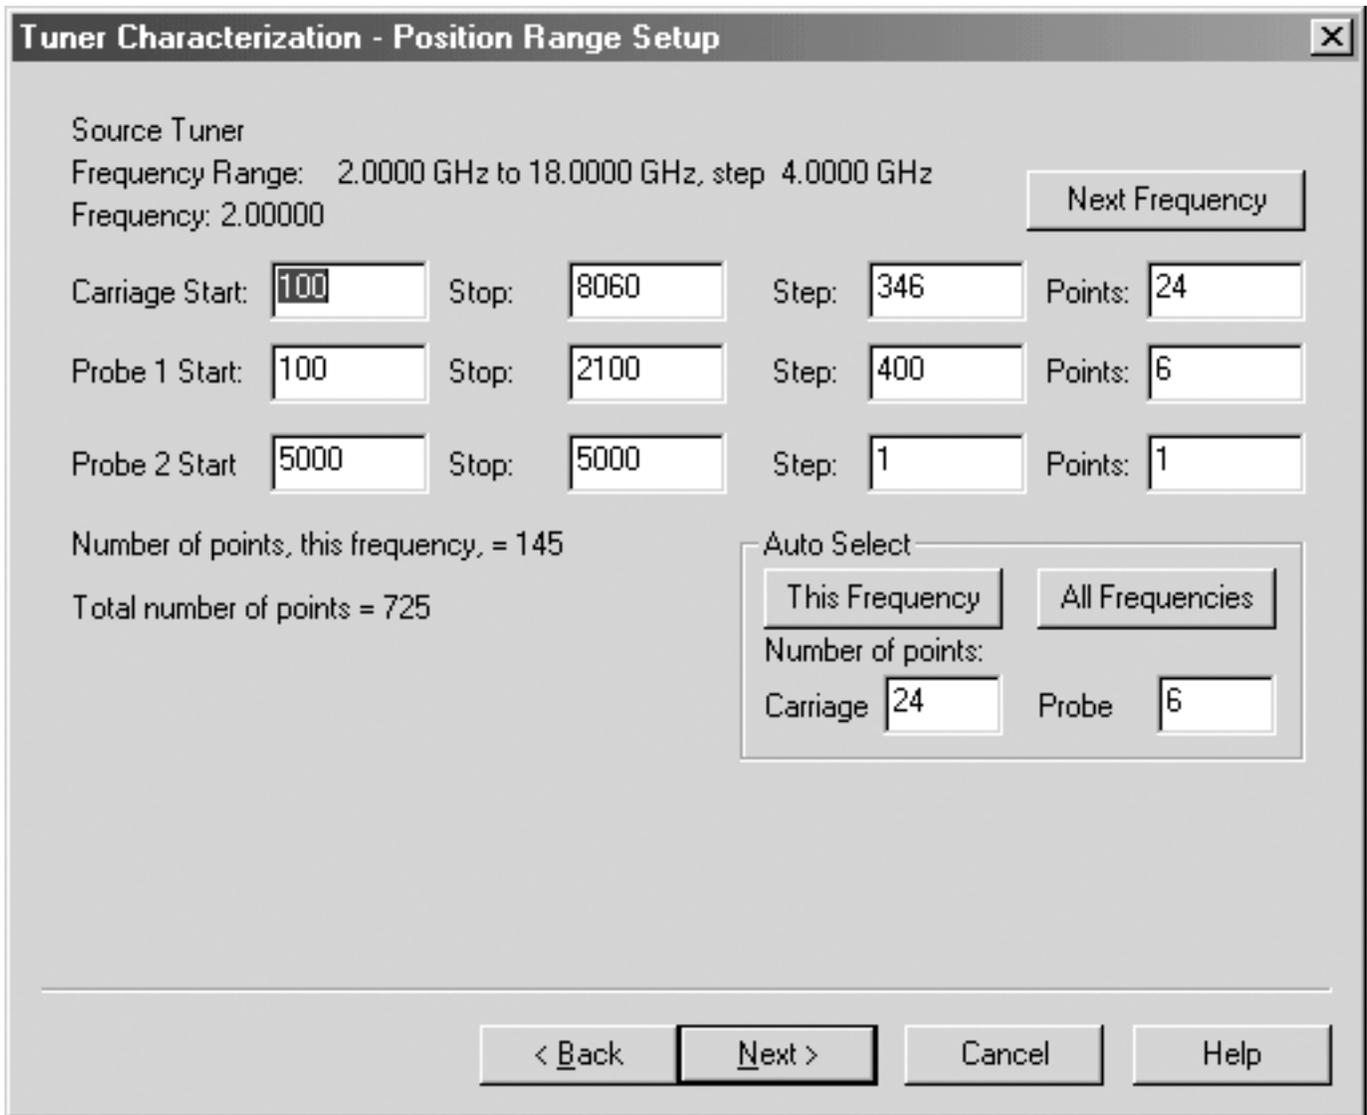

Figure 5-3. Tuner Step Position Range Setup Editor
- d. The next step is to edit the range of positions, if desired. The default range (see Figure 5-3) will provide nominal reflection coefficient coverage of the entire Smith chart. The density depends on the default number of carriage and probe positions, shown in the lower right corner of the Position Range Setup Page.